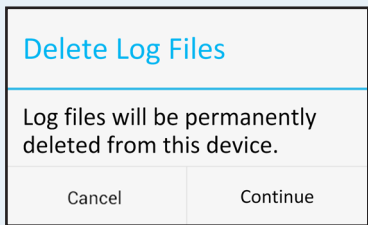

Figure 3-20:
2. Press **ADMINISTRATOR SETTINGS** and log in to the device. Press **Delete Log Files** and the a message screen will display (Figure 3-20).